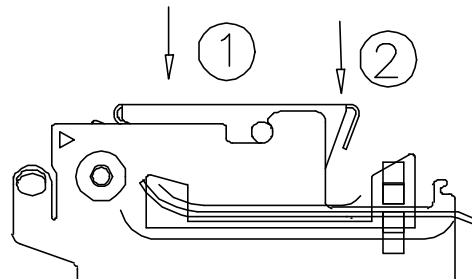

Figure 7-2 Lock the Printhead
3. Use even pressure across the rear of the printhead assembly so that both sides of the assembly snap down (Figure 7-2).